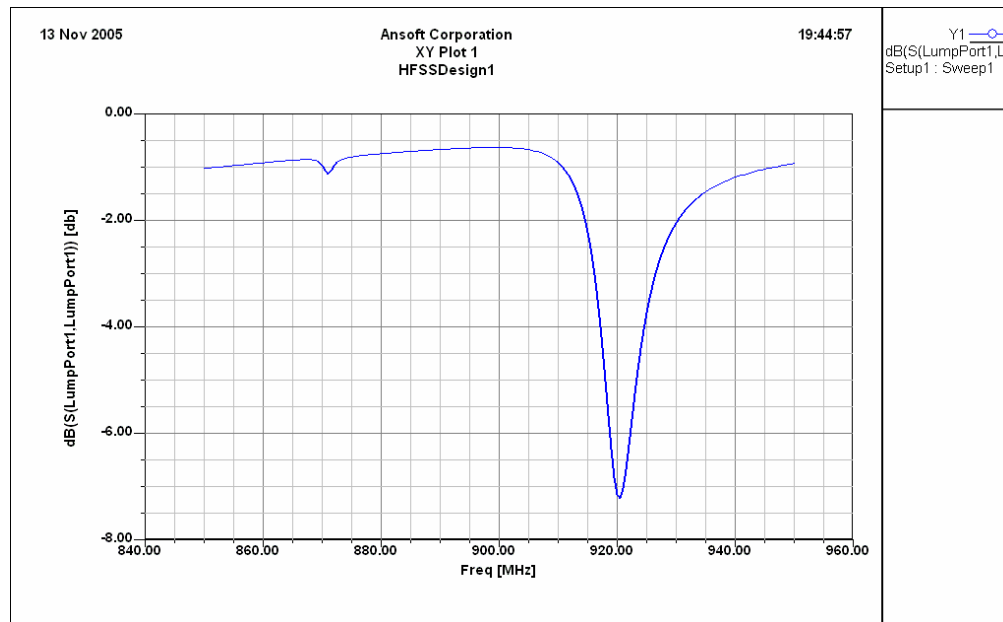

Fig. 6. The return loss of the diode detector matched with the lumped inductor.
16. Run the simulation. The result should look like that shown in Fig. 6. If this is the case, plot your return loss (the so-called “Discrete-component matching” plot).